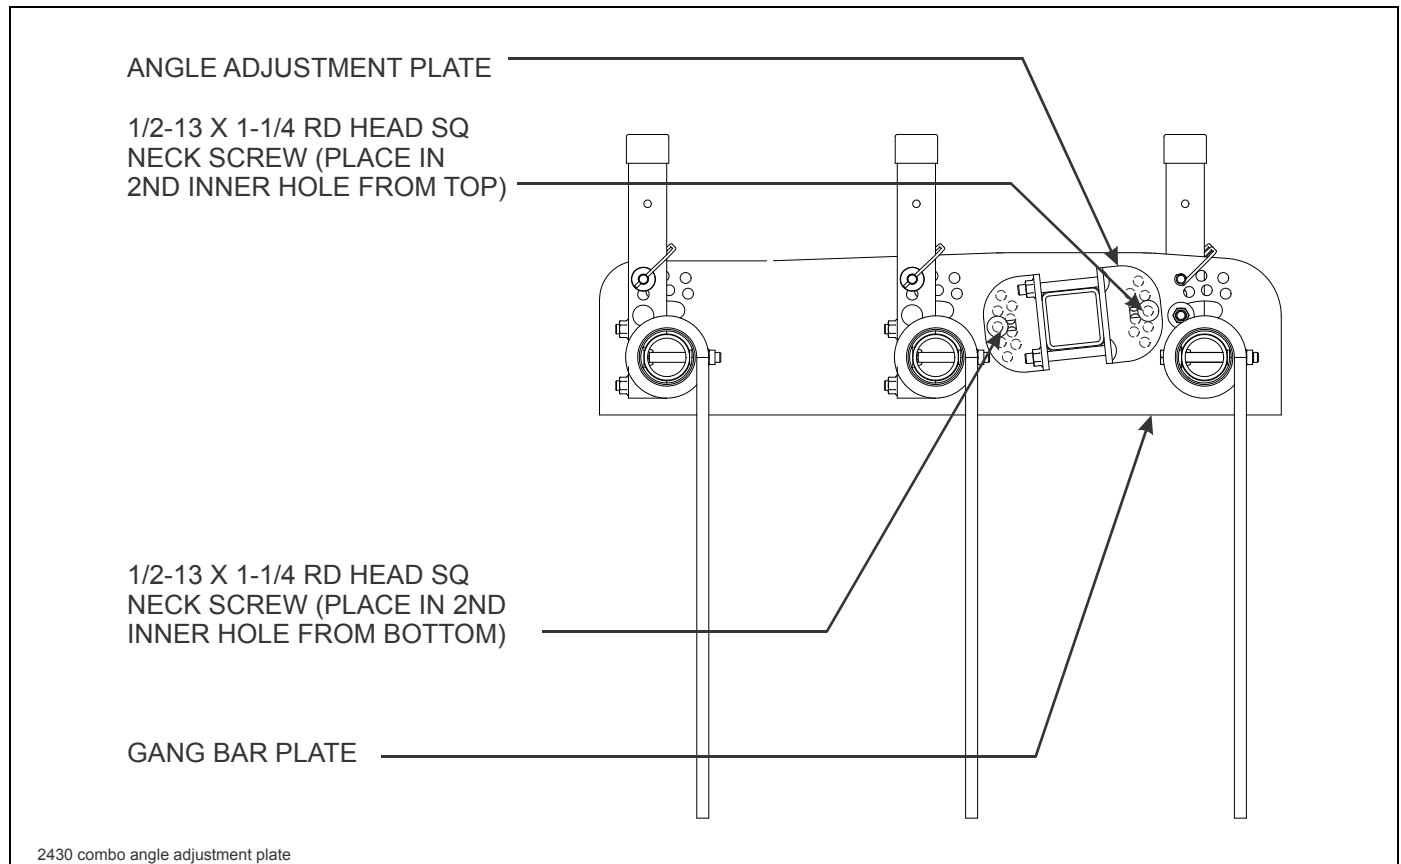

Figure 3-22: Angle Adjustment Plate Installation
10. Install 1/2-13 x 1-1/4 round head square neck screws through angle adjustment plate and gang bar plate as shown in **Figure 3-22.**